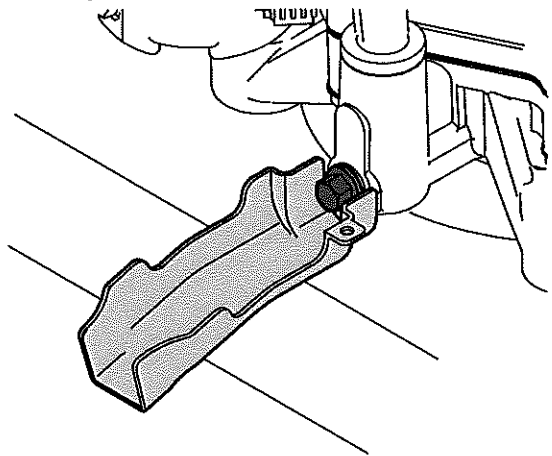

Figure 23
4. Snap the small end of the oil drain sleeve onto the oil sump. See Figure 23.